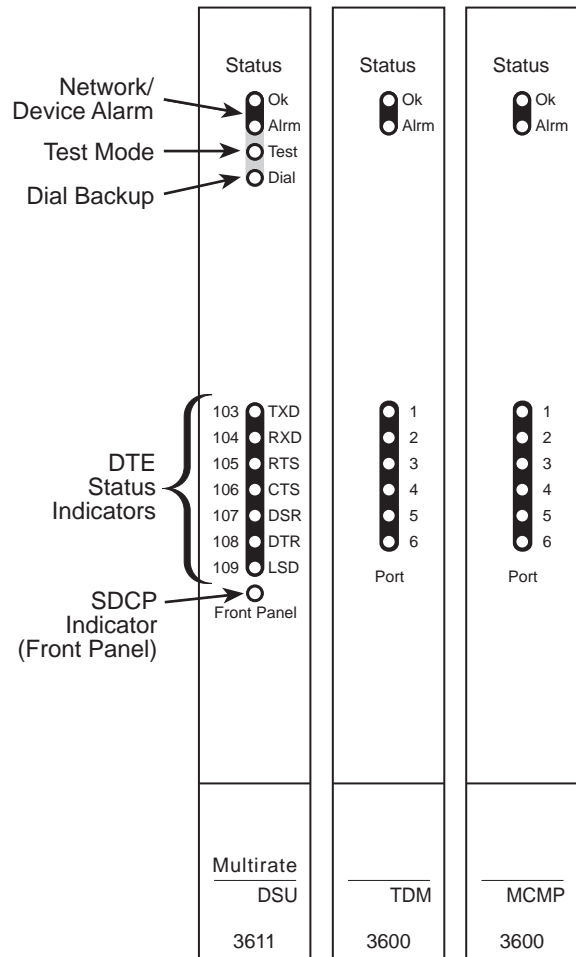

Figure 3-2. Model 3611 DSU, TDM and MCMP Faceplates
- SDCP (shared diagnostic control panel) used with the Model 3611 DSU (see Figure 3-2) in a COMSPHERE 3000 Series Carrier.